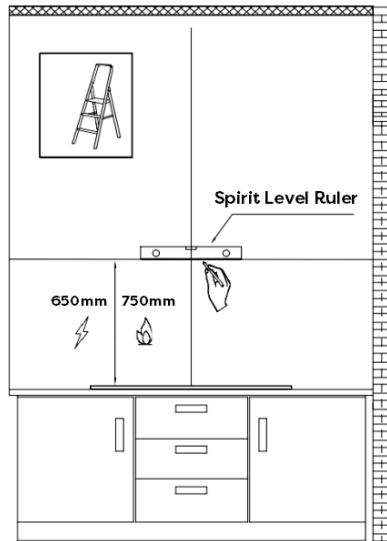

Fig. 7
- 1) First use a pencil to mark the installation position on the wall, then use a Measuring Tape to measure the height from the stove surface to the hood (the center point of aluminum grease filter) and use a Spirit Level Ruler to maintain the level, then use a pencil to draw a horizontal line along the level. (see Fig. 7)